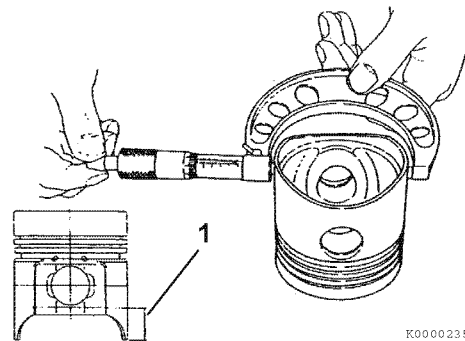

Figure 6-51
4. Measure the diameter of the piston skirt at 90° to the wrist pin bore as shown (**Figure 6-51**). Measurements must be taken at a specified distance (1, **Figure 6-51**) from the bottom of the piston, based on engine model. Record the measurements. See *Piston on page 6-9* for specifications.